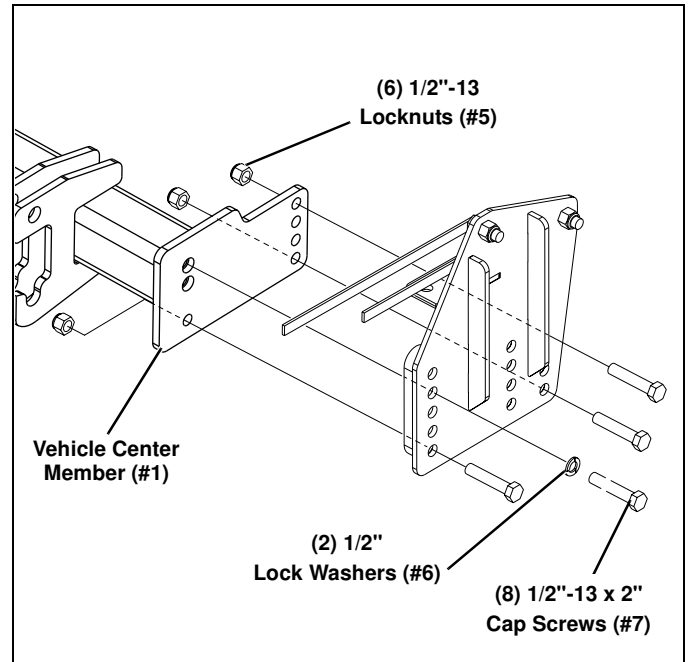

Figure 6
5. Secure the Vehicle Center Member (#1) using (8) 1/2"-13 x 2" Caps Screws (#7), (2) 1/2" Lock Washers (#6) and (6) 1/2"-13 Locknuts (#5). (See Figure 6.)